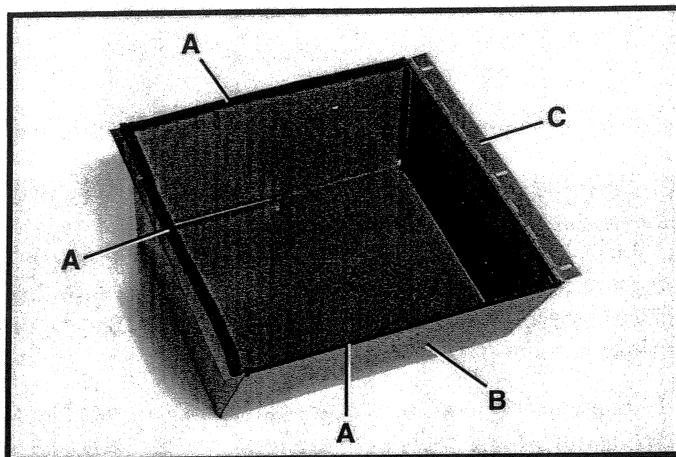

Fig. 50
1. Remove the protective paper from the adhesive gasket material supplied with the machine and apply gasket (A) Fig. 50, to three sides of the back of the motor cover (B), as shown. **NOTE:** Do not apply gasket to the hinged side (C) of the motor cover (B).